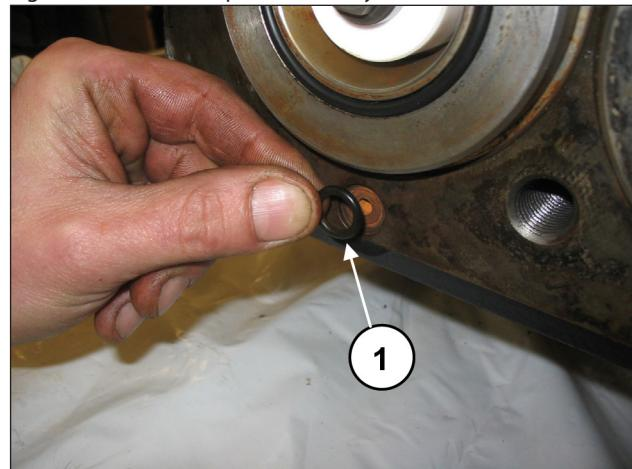

Fig. 188
Mount the recirculation hole O-ring (pos. ①, Fig. 188).